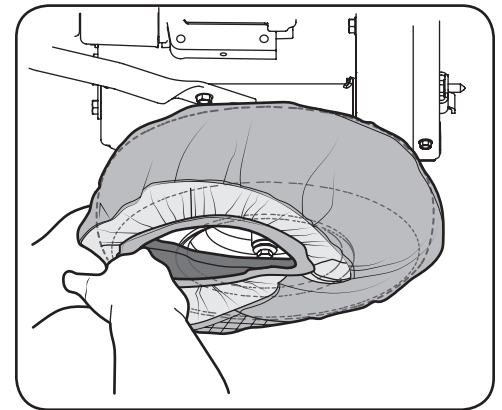

Figure 4-7
1. Fit a snow sock over the top of the wheel on the FLEX™ Power Base, as shown in Figure 4-7, then work the rest of it around the bottom of the wheel.